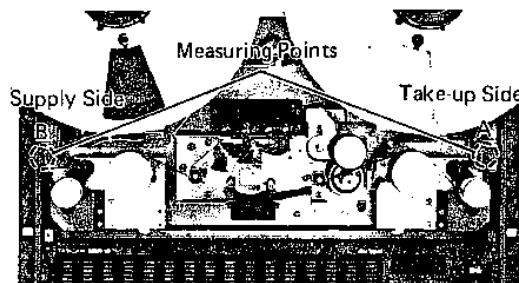

FIG. 18. TAPE TENSION MEASUREMENT POINTS
3. Using a tension analizer or tentelometer, measure take-up tension at test point A and back tension at test point B (Fig. 18). Both readings should be  $70 \pm 5$  g. If not, adjust R2 (for take-up tension) and/or R1 (for back tension). Refer to Fig. 19 for locations of adjustment resistors.
2. Run the tape in F.FWD and read the tension analizer or tentelometer at the B point shown in Fig. 18. Similarly, run the tape in REW and read the tension analizer or tentelometer at the point A shown. Specifications (both in F.FWD and REW) are  $60 \pm 5$  g. If necessary, adjust the following resistor(s):